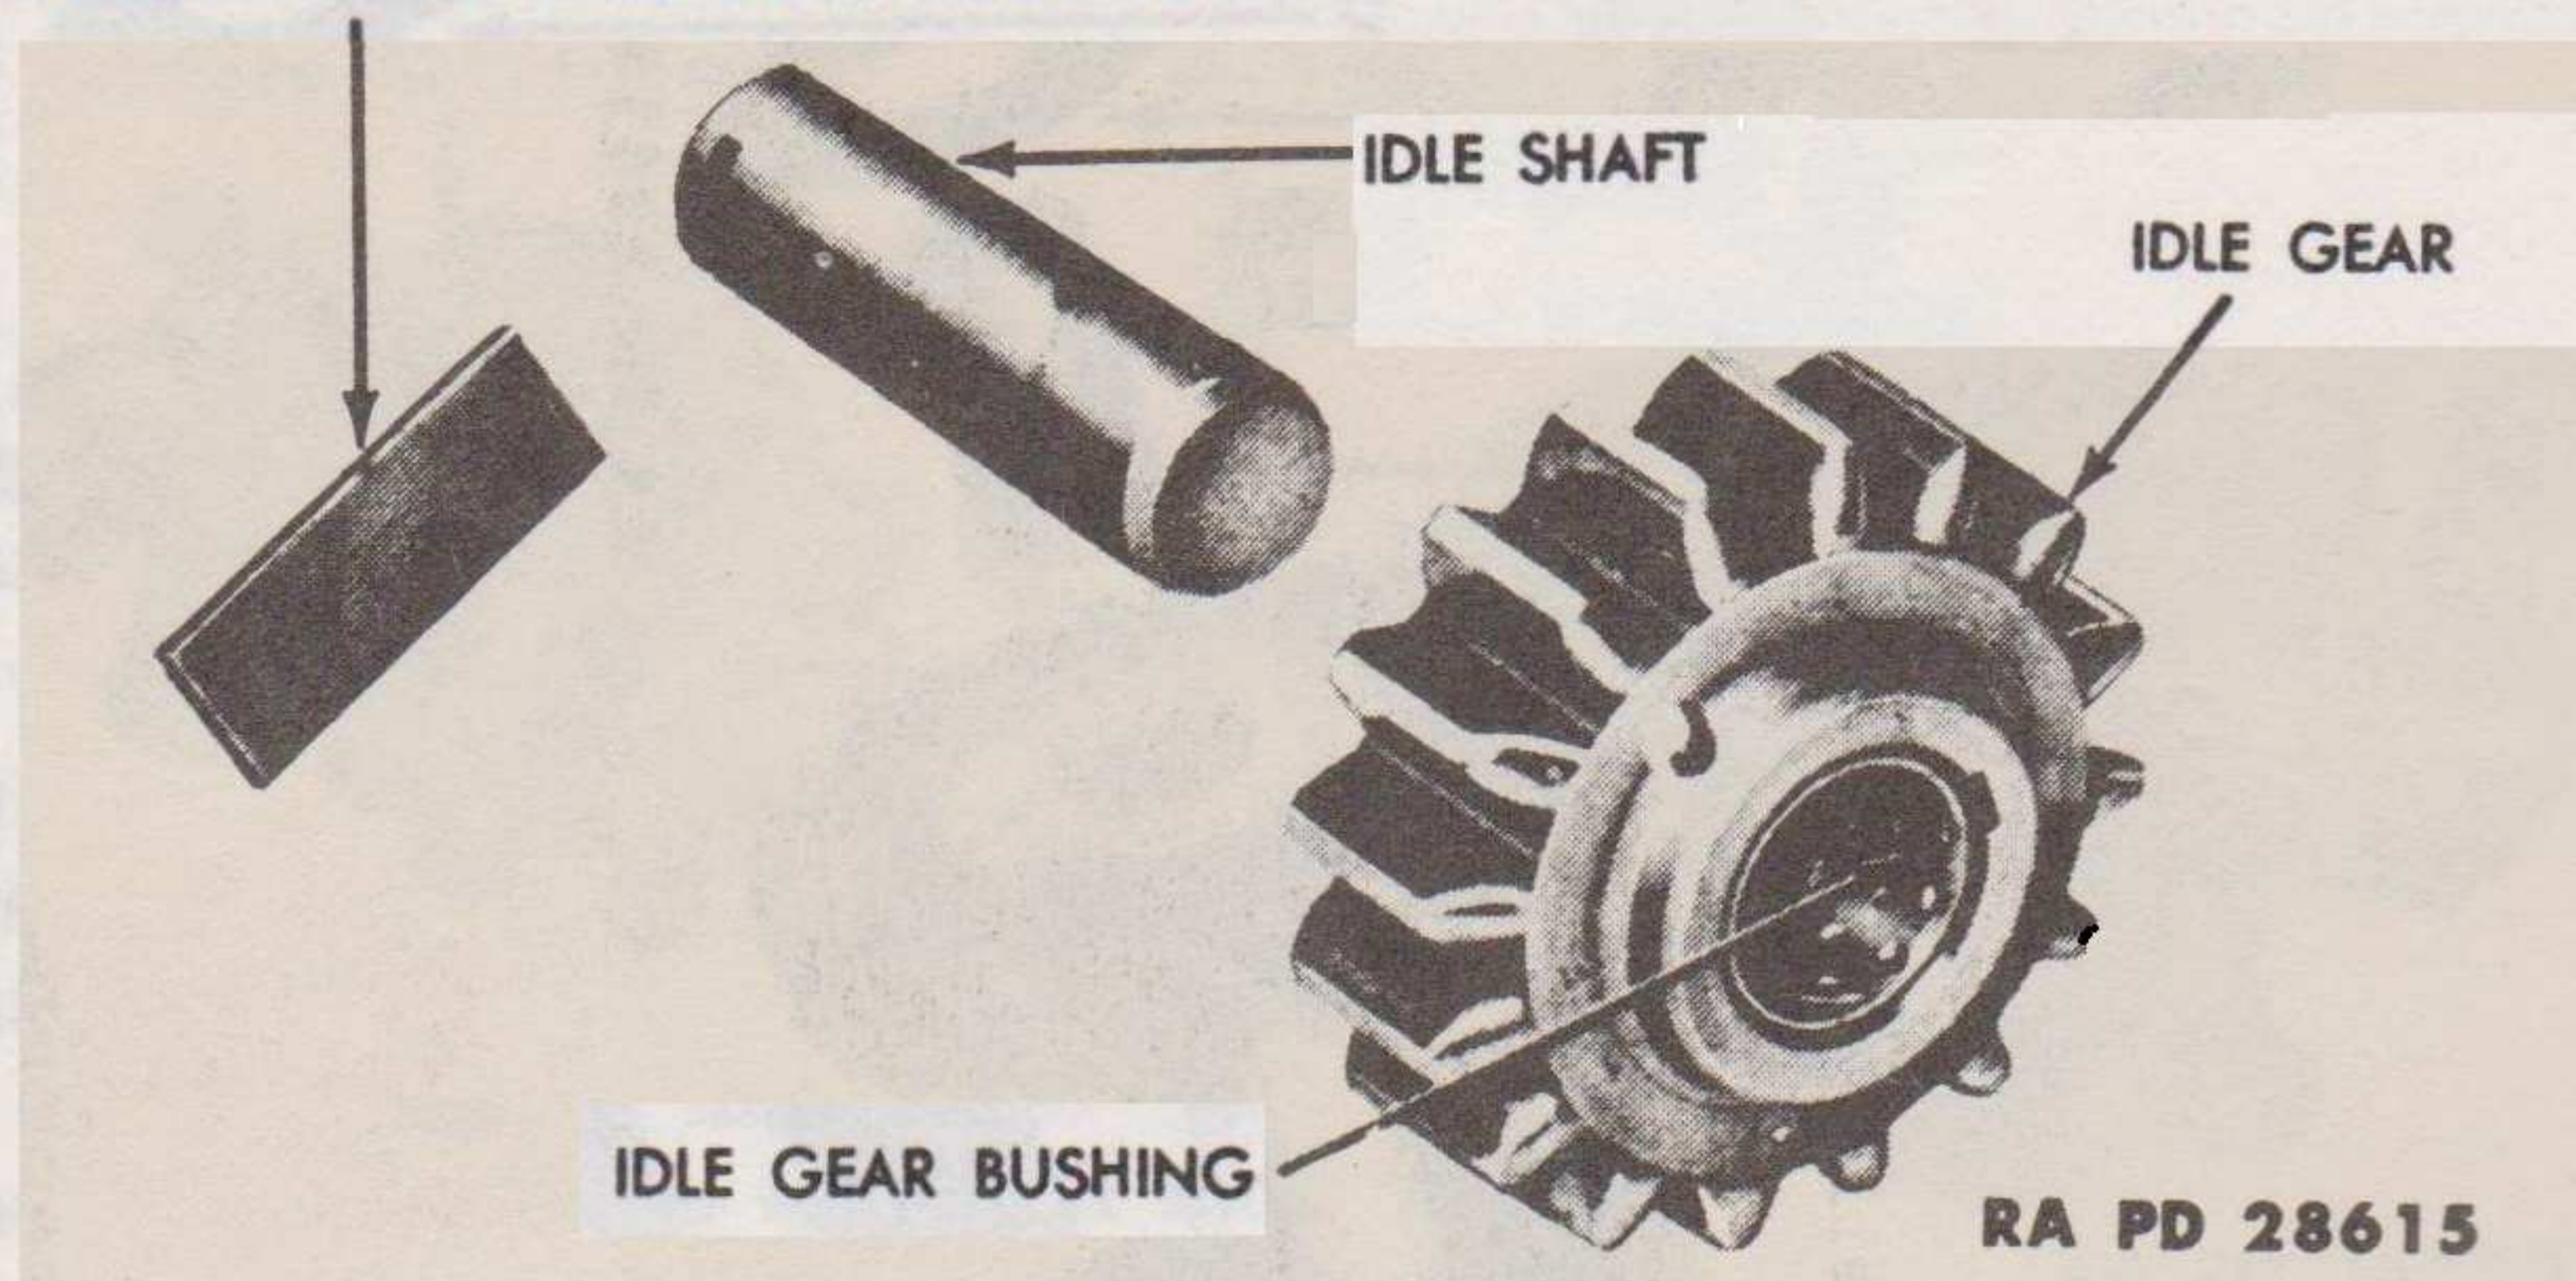

Figure 15 — Idle Gear Assembly — Exploded View
(7) IDLE GEAR (fig. 15).
a. **Install Idle Gear.** Hold the idle gear (fig. 15) in place in the case with the cone end of the hub toward the front, and push the idle gear shaft into the case.